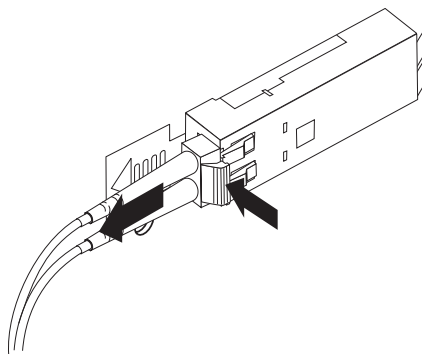

Figure 22. Removing the LC-LC Fibre Channel cable
2. Carefully pull on the connector to remove the cable from the SFP module as shown in Figure 22 on page 27.